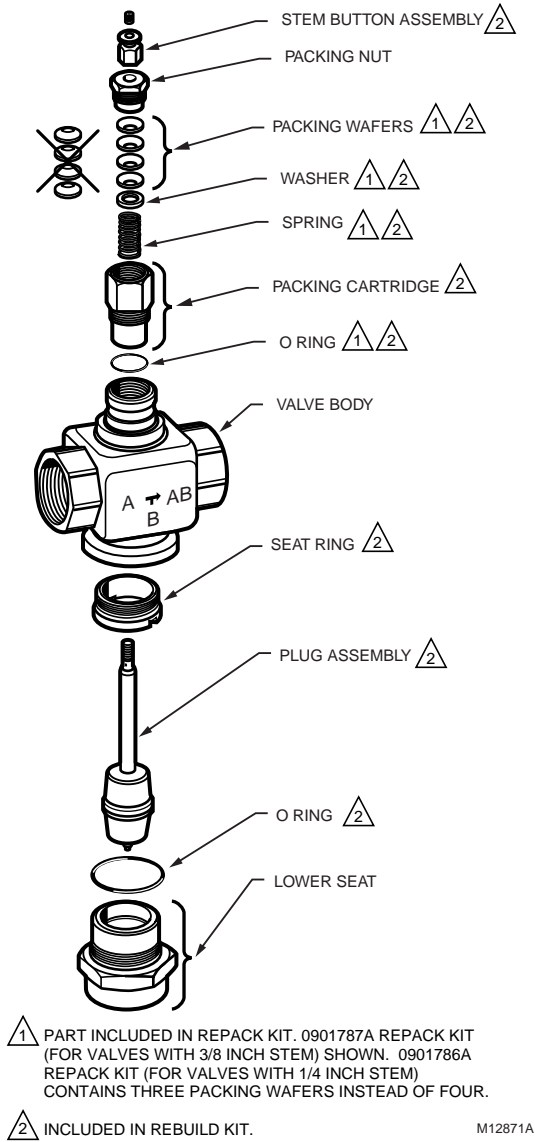

Fig. 3. V5013N replacement parts.
**Replacement Parts:** See Fig. 3 and Table 3.